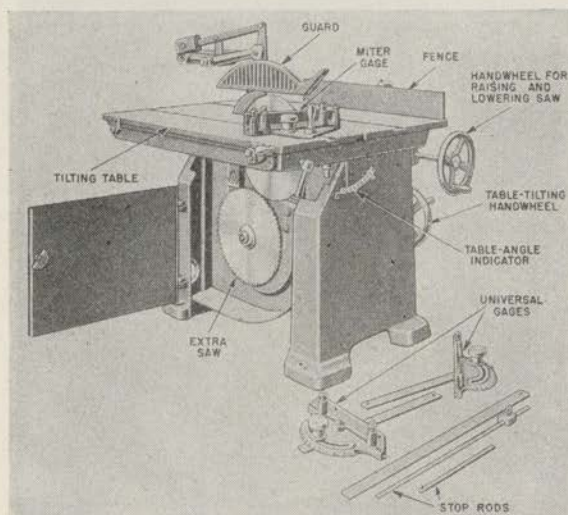
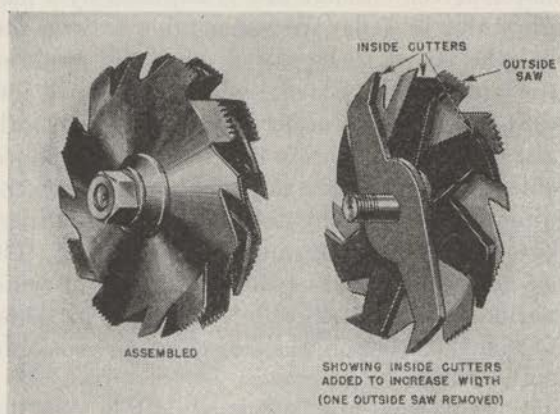
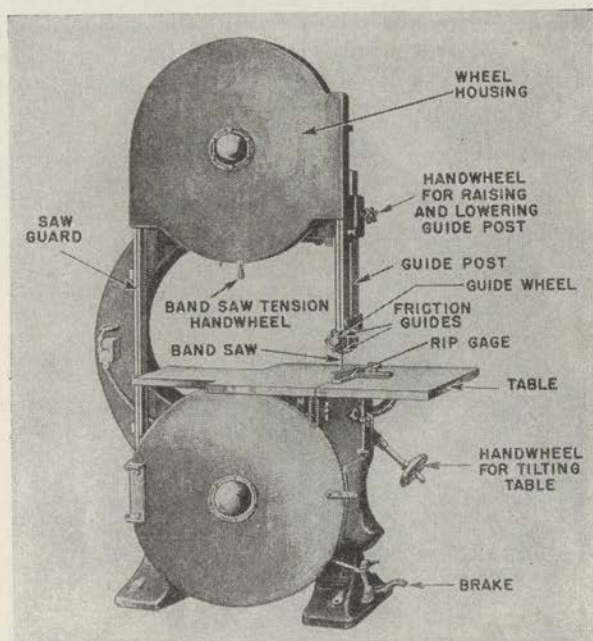

FIGURE 60.—Table saw.
FIGURE 61.—Dado head or groover.
FIGURE 62.—Band saw.
b. Table saw (fig. 60).—(1) The table saw is used mainly for ripping. A motor-driven circular saw is adjusted by a handwheel to project through a slot in a flat cast iron table a little farther than the thickness of the board to be sawed. Set the guide or "fence," according to the width of the board, and feed the wood into the saw, holding it against the guide. For accurate work, the board edge that is guided against the fence should first be trued in the jointer.
(2) Most table saws have gages, adjustable up to 45° , that slide in grooves for miter sawing. Many table saws have tilting tables or tilting saw arbors for bevel sawing, adjustable up to 45° . The machine shown in figure 60 accommodates two saws, either of which may be raised into position by a handwheel. By putting a "dado head" or groover (fig. 61) on the arbor in place of the saw, grooves of various widths and depths can be cut.
(3) Ordinarily, table saws are sharpened only in very large shops; usually, they are sent to a professional saw filer when they become dull.
c. Band saw (fig. 62).—(1) The band saw is required for sawing curves and convenient for most other sawing where lines have to
(3) Ordinarily, use a band saw freehand, guiding the work with the fingers. Fences are furnished with the machine for ripping, and gages for miter sawing. The ripping fence is shown in place in the illustration. The table shown in figure 62 may be tilted for bevel sawing.